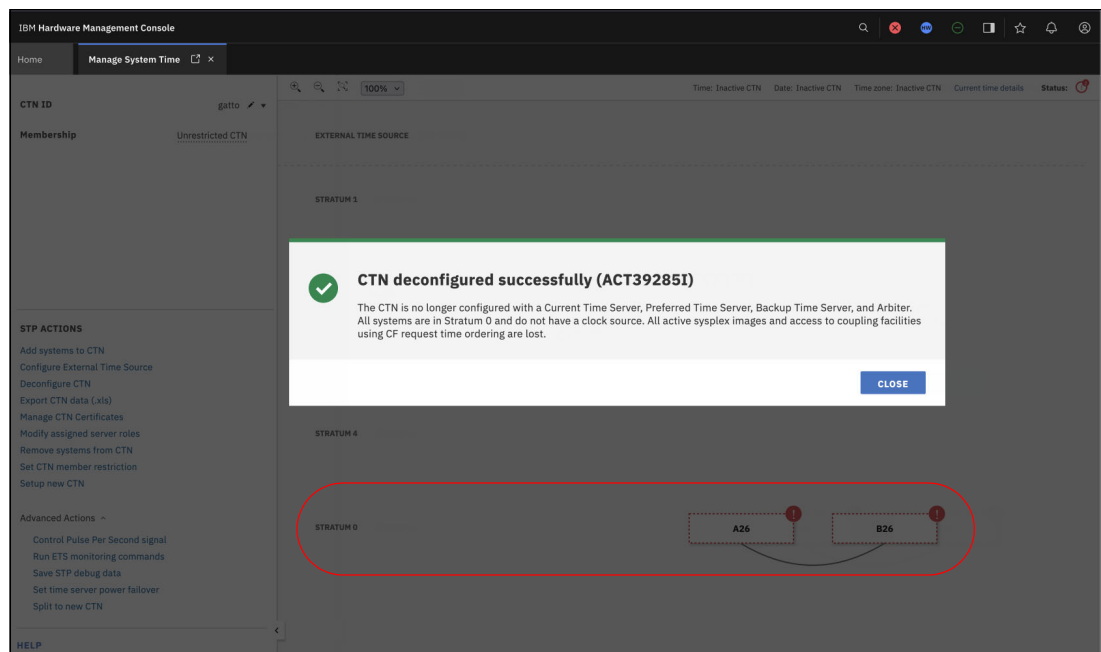

Figure 3-51 CTN deconfiguration success
3. After the task finishes, you see the message that is shown in Figure 3-51.
In Figure 3-51, both servers are now STRATUM 0 and they are not part of the CTN.